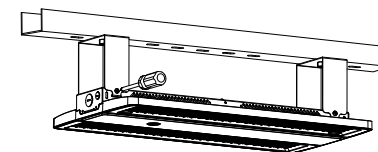

Figure 7
- Step 2. Assemble the lamp on the bracket and fix it with screws (Figure 7)